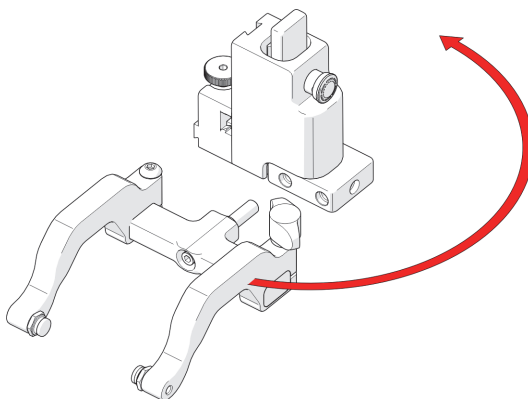

Figure 2-84 Orient to opposite side
2. Position the yoke and arms to the opposite side of the probe holder (see Figure 2-84 on page 111).